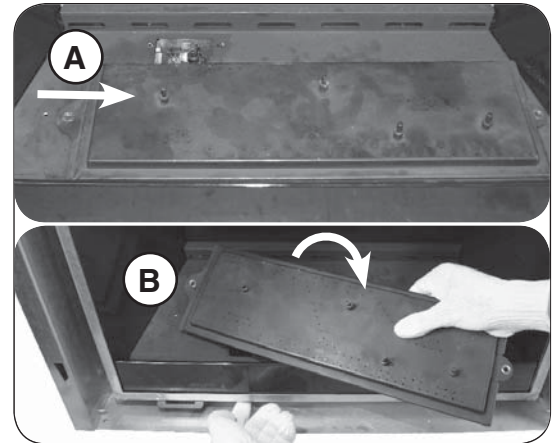

Fig. 48-2 Remove burner
5. Remove the burner by first sliding it to the right so that the venturi tube clears the orifice (see Fig. 48-2, A). Then angle the burner and remove (see Fig. 48-2, B).